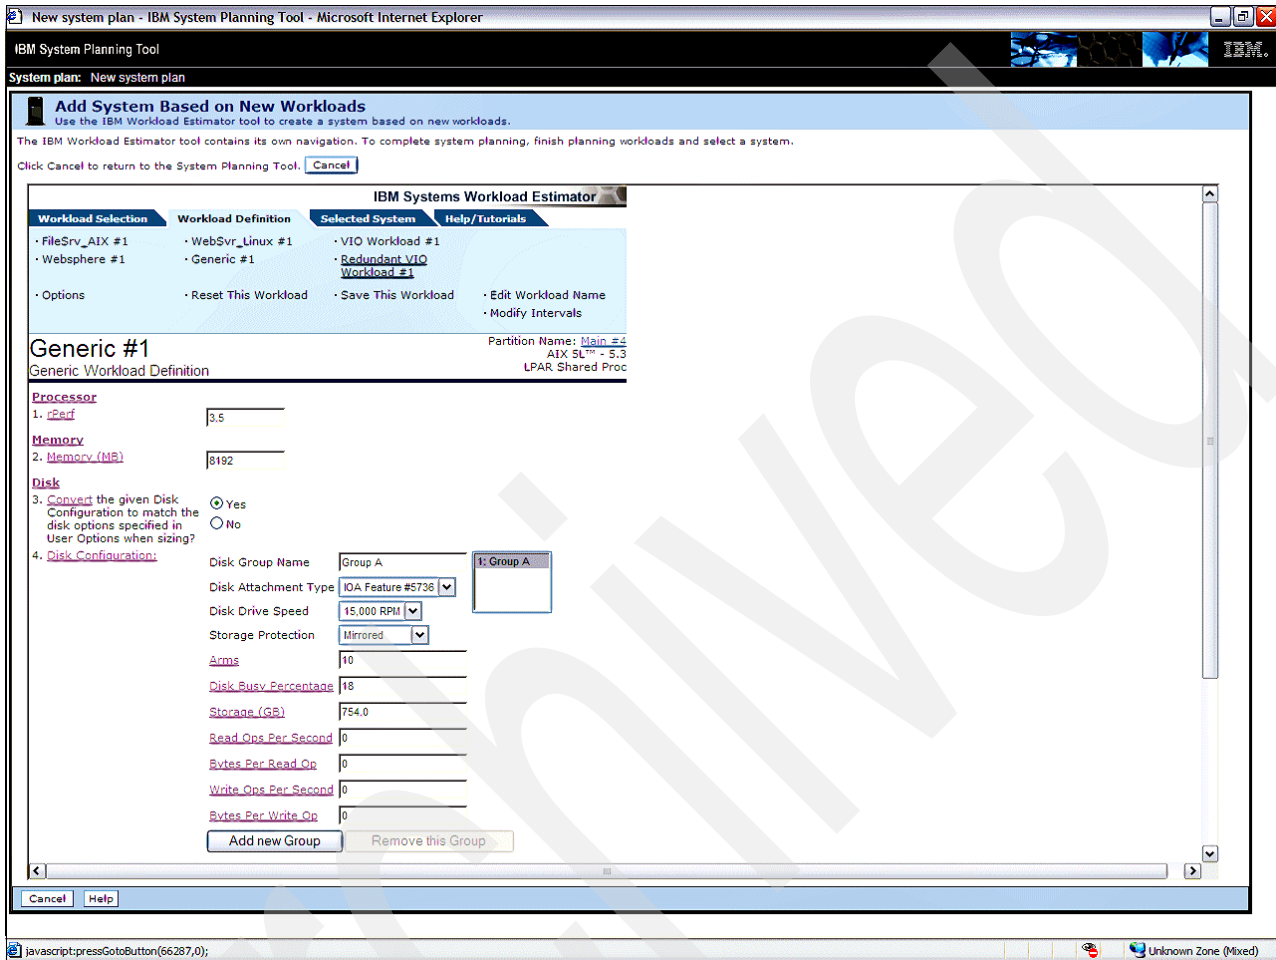

Figure 5-30 Generic AIX workload
10. For a generic AIX partition information is required to determine how much CPU is required, memory, and disk usage. The CPU requirements are expressed in rPerf. Memory is the amount for the partition and disk can be defined with capacity and number of arms or by the amount of disk reads and writes. Figure 5-30 shows the questions.